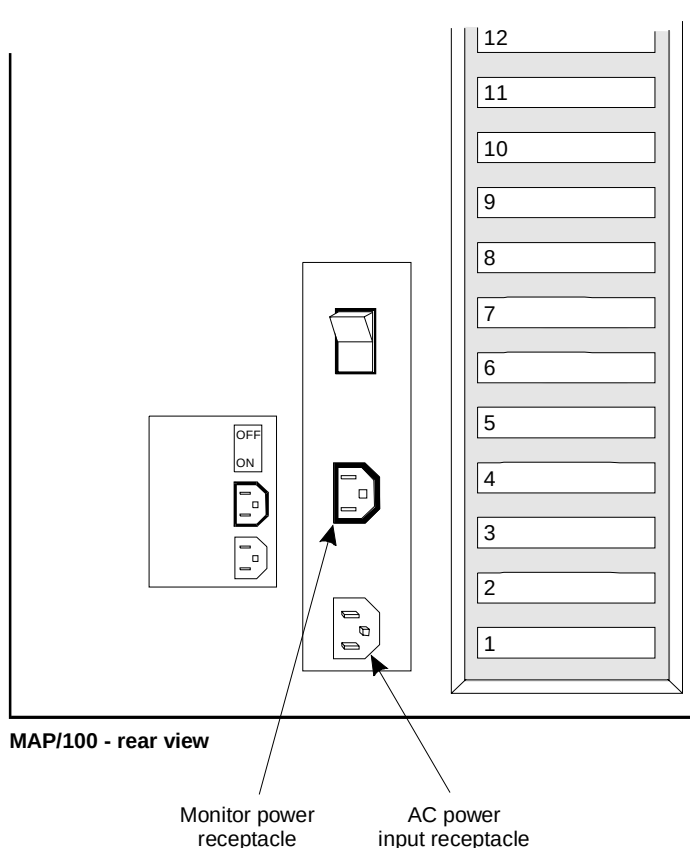

Figure 4-5. MAP/100 Power Connections
The MAP/100 requires a dedicated power line. The power cord connects to the rear of the MAP/100 at the point labeled AC power input receptacle (Figure 4-5). Before you begin any work in the MAP/100 you must disconnect the incoming power.
5. Turn off the circuit breaker on the back of the MAP/100 (Figure 4-5).
7. Remove the MAP/100 power cord from the AC power input receptacle on the rear of the MAP/100 (Figure 4-5).